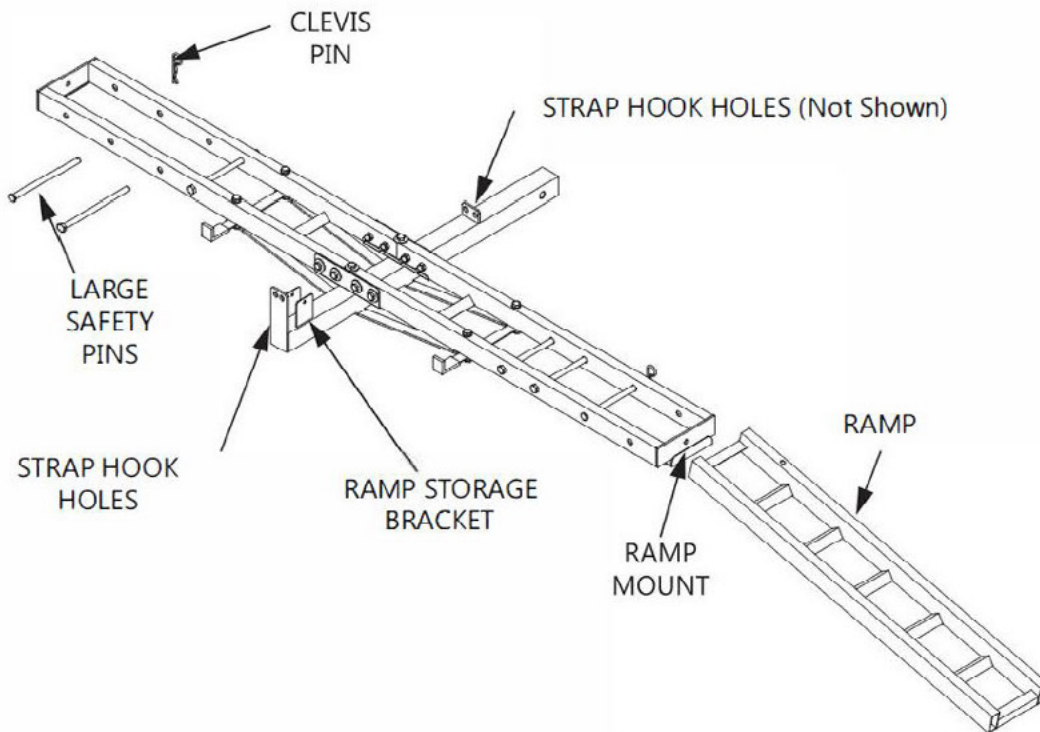

FIG. 3
Step4: The carrier is designed to load the motorcycle from the left or right side using the ramp. There are 3 sets of center holes and 1 set of upper holes on each cradle. The large safety pins and clevis pins are used in the upper holes. See FIG. 4. The 4 large bolts are used in the center hole to support the motorcycle tires. NOTE: Depending on the size of your motorcycle some bolts may not be needed. (see FIG.3)